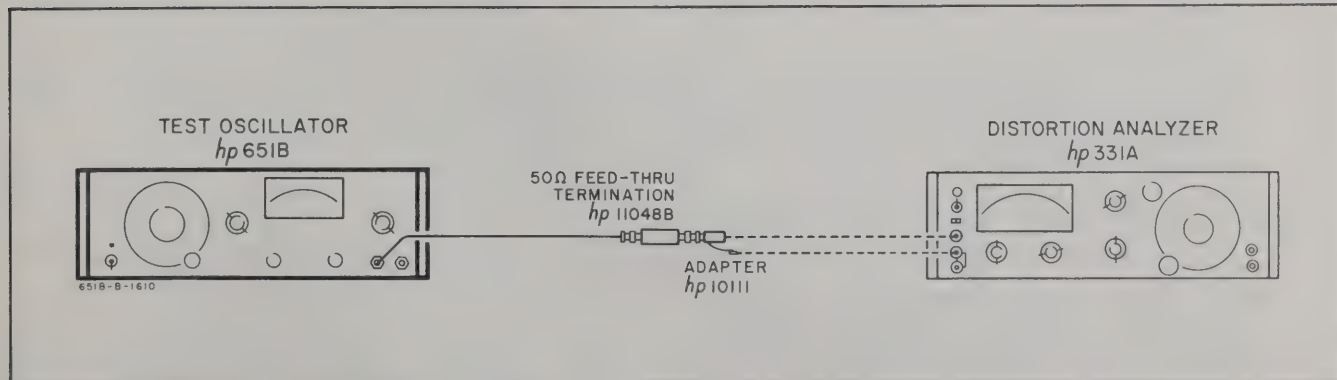

Figure 5-5. Distortion Check
- a. Connect distortion analyzer to 651B as shown in Figure 5-5. For Option 02-651B, use 75 Ω feed-thru termination (-hp- Model 11094A).
- a. Connect 651B to distortion analyzer as shown in Figure 5-5.